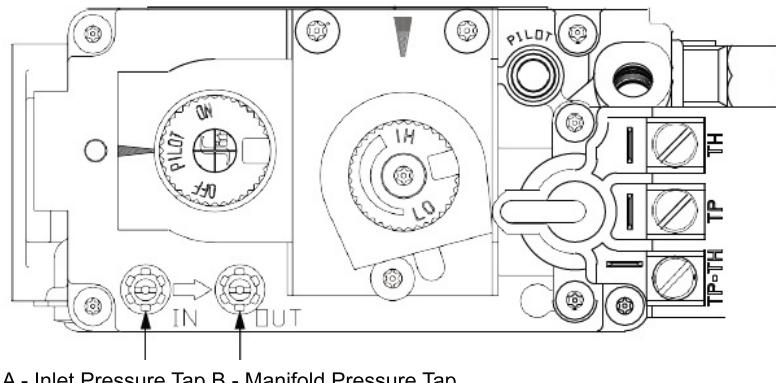

Figure 12.2 - Pressure Check Taps
1. Loosen the inlet (IN) pressure tap by turning screw counterclockwise. See (A) in Figure 12.2.
8. Disconnect hose and tighten the inlet (IN) pressure tap by turning screw clockwise. Screw should be snug. Do not over tighten.
9. Relight pilot and turn the gas control knob to ON. Reattach manometer to the inlet pressure tap (A) to verify the tap is completely sealed. Manometer should read no pressure.
2. Loosen manifold (OUT) pressure tap by turning screw counter-clockwise. See (B) in FIGURE 12.2.
7. Attach the manometer to the manifold pressure tap (B) to verify it is completely sealed. The manometer should read no pressure when pilot and burner are on.